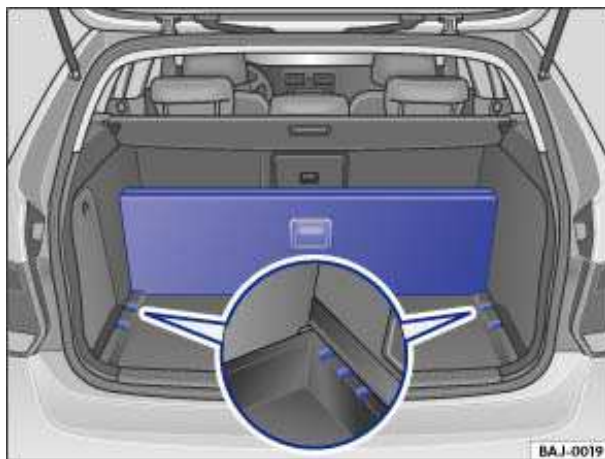

Fig. 101 In the luggage compartment: Upright position of luggage compartment floor.
- Use the handle to put the luggage compartment floor in a upright position and fit its sides into the slots ⇒ fig. 101 (inset).